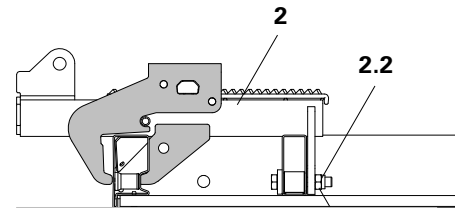

Fig. A4.02
2. Insert hook into the profile recess from below and fix the Connector for Platform MXP (2) to the panel struts by means of bolts and nuts (2.2) – do not fully tighten. (Fig. A4.02)
3. Attach sliding part and tension with the wedge. The hooks are positioned above on the profile surface. (Fig. A4.02)